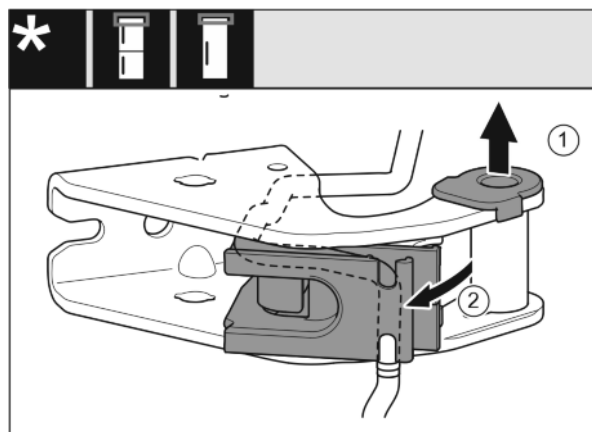

Fig. 21
- Pull the bearing bush out of the guide. Fig. 21 (1)
- Swing the cable holder out. Fig. 21 (2)